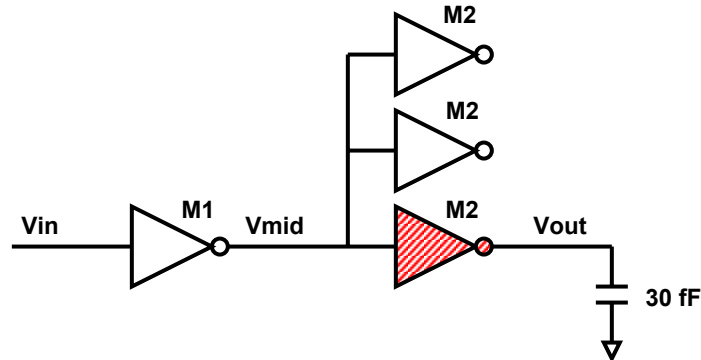

Figure 1: Inverter Circuit
2. Transistor Sizing: We want to determine the transistor sizes (widths) of the devices in the inverters labeled M2 in Figure 1. M1 and M2 denote particular size combinations of NMOS and PMOS devices in inverters. Inverter M1 has a PMOS device with $W_p=2.4\mu\text{m}$ and an NMOS device with $W_n=1.2\mu\text{m}$. Use the $K_{eq} = 0.7$ approximation and standard capacitance parameters above to develop a capacitance C_L equation for V_{mid} in terms of the W_p and W_n of each device in M2. Assume the standard 0.25 μm process technology parameters. Remember to consider the Miller effect when calculating capacitances for this problem. All devices will use minimum channel length.